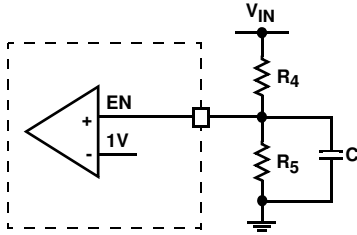

FIGURE 37. EXTERNAL RESISTOR DIVIDER
When the input voltage is below the undervoltage lockout (UVLO) threshold, the regulator is disabled. To adjust the voltage level of power on and UVLO, use a resistive divider across EN. The input voltage programming resistor R_4 will depend on the bottom resistor R_5 , as referred to in Figure 37. The value of R_5 is typically between 10k Ω and 100k Ω .
The enable (EN) input allows the user to control the turning on or off the regulator for purposes such as power-up sequencing. When the regulator is enabled, there is typically a 600 μ s delay for waking up the bandgap reference and then the soft-start-up begins. It is recommended that the EN voltage should be kept logic low (less than 400mV), until V_{IN} reaches 2.5V. Refer to Figures 37 and 38 for suggested circuit implementation with V_{IN} slew rate.